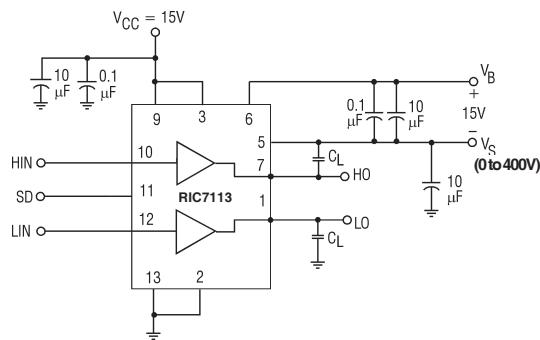

Figure 3. Switching Time Test Circuit
**VBIAS** (VCC, VBS, VDD) = 15V, and **VSS** = COM unless otherwise specified. The dynamic electrical characteristics are measured using the test circuit shown in Figure 3.